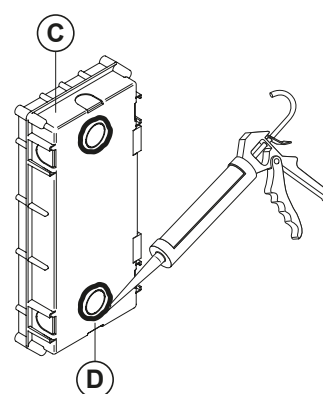

Fig. 59
**Before fitting the flush box (C) into the wall it is recommended that in order to prevent water ingress a silicon sealant is used between the wall and the flush box (C) (Fig.59) and around the flush box openings (D) (Fig.59);**